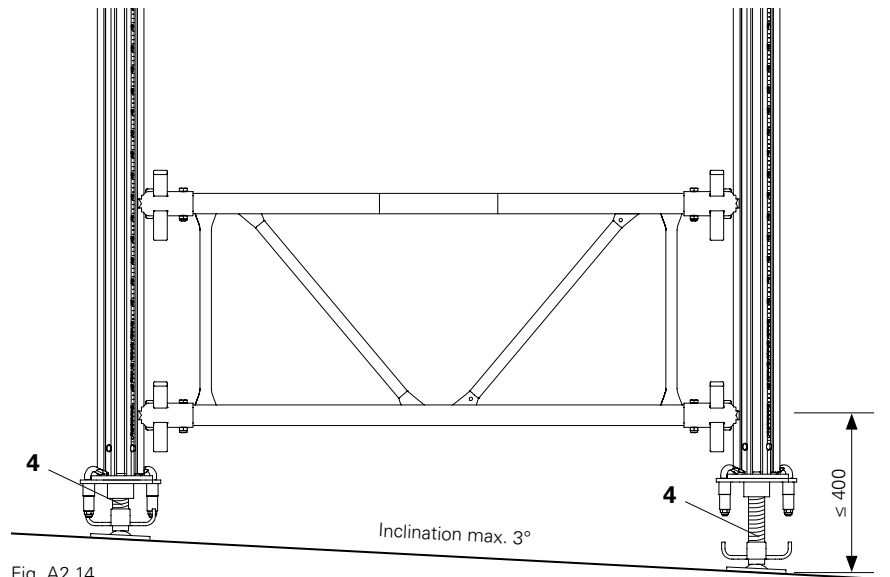

Fig. A2.14
The Tilting Base MKF (4) with quick-action clamp coupling can be pivoted on all sides by up to 3°. This means that MULTIPROP props can be positioned on inclined surfaces. (Fig. A2.14)